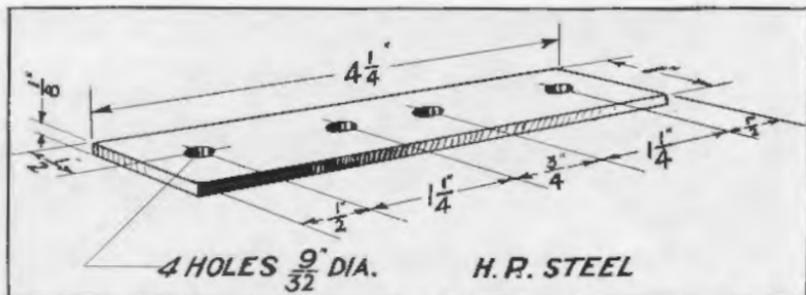
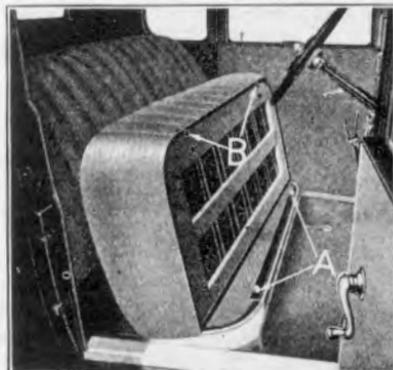

Fig. 575
Fig. 576
**1259** In addition to the increased space obtained by inserting the two dowels in seat riser into the two forward holes in bottom of seat cushion (see Fig. 576), the seat and seat back in the new Coupe can be moved back to provide additional space between steering wheel and seat back, as well as increased leg room, by proceeding as follows:
- 1277 Replace seat cushion, making sure to insert the two dowels on seat riser (see "A" Fig. 576) into the two forward holes "B" on bottom of seat cushion board.
of the plate which can be easily made locally, are shown in Fig. 575. When replacing the seat cushion insert the two dowels on seat riser (see "A" Fig. 576) into the two forward holes "B" on bottom of seat cushion board.
1286 The rear seat can be moved back by sliding back the cushion into the seat back and positioning dowels on seat riser into the two forward holes in cushion frame, in the same manner as shown in Fig. 576.